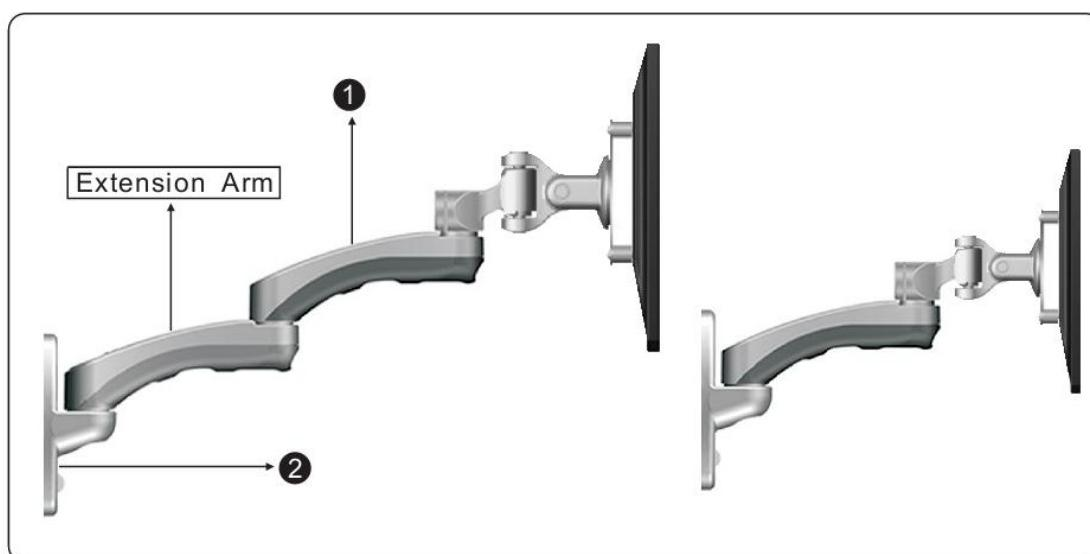

Figure 5-4
6. This product is manufactured and designed to adjust quickly and easily according to your needs. To adjust the height, remove the Extension Arm (**1**) from Wall Plate (**2**) followed by reattaching the LCD Arm to the Wall Plate (**2**) to achieve your desired position (**See Figure 5-4**).